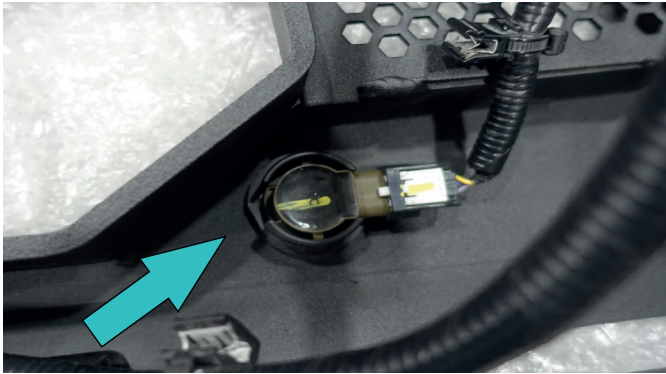

Fig.50
47. Install the factory parking sensors in the bumper (fig.50).